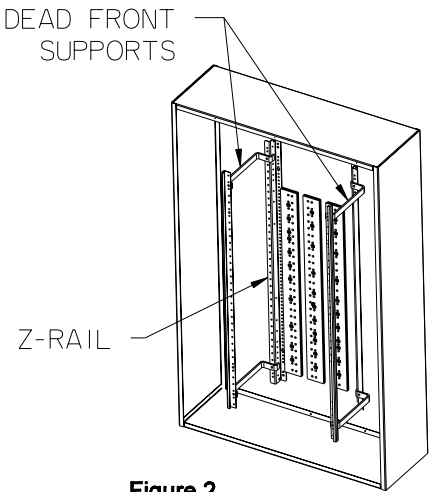
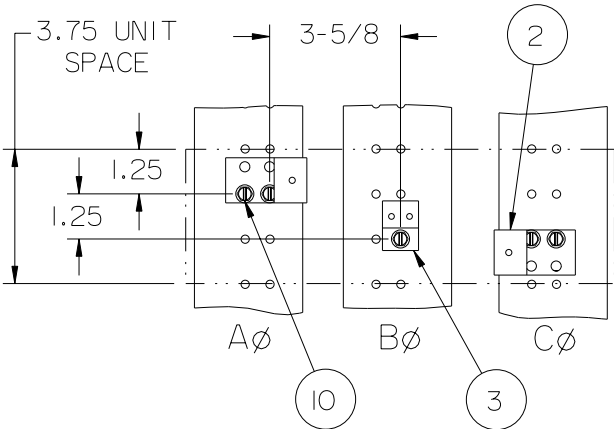

Figure 2
Figure 4
- 3. Reference fig. 2 - To mount a BL/BQD Breaker, 3-3/4" of empty unit space is required. To locate the mounting position, measure from the top dead front support to the top of the empty unit space filler on the dead front. Transfer this dimension from the dead front support along the Z-rail and mark. This will be the unit space as shown on Fig. 4. After marking the Z-rail, remove the dead front.
- 5. Reference fig. 4 - Installing the Phase Straps. Locate two 0.228" diameter holes in the Aø Bus 1-1/4" down from the top of the 3-3/4" empty unit space selected. Insert two 1/4-20 thread forming screws (see mounting hardware kit for the proper length) through two 0.281" diameter holes in an A/C Strap (item 2) and into the holes in the two selected holes in the Aø Bus (orienting the A/C Strap as shown) and tighten. Repeat this step to mount the second A/C Phase Strap to the Cø Bus using two 0.228" diameter holes in the Cø Bus down 1-1/4" from the holes used on the Aø Bus and tighten. Insert another 1/4-20 thread forming screw through the 0.281" diameter hole in the Bø Strap (item 3) and into a 0.228" diameter hole in the Bø Bus down 1-1/4" down from and 3-5/8" to the right of those used on the Aø Bus (orienting the Bø Strap as shown) and tighten. Torque all hardware as specified on the rear of the deadfront.